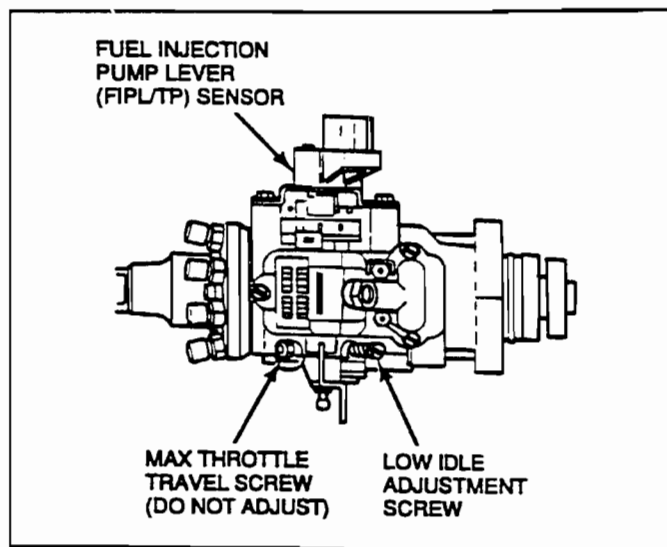

Figure 1
The Fuel Injection Pump Lever (FIPL) Throttle Position (TP) sensor is used on E-250-350,F-250-350, and F Super Duty vehicles equipped with a 7.3L Diesel engine and an E4OD automatic transmission. The FIPL/TP sensor is a potentiometer attached to the fuel injection pump and is operated by the throttle lever Figure 1.